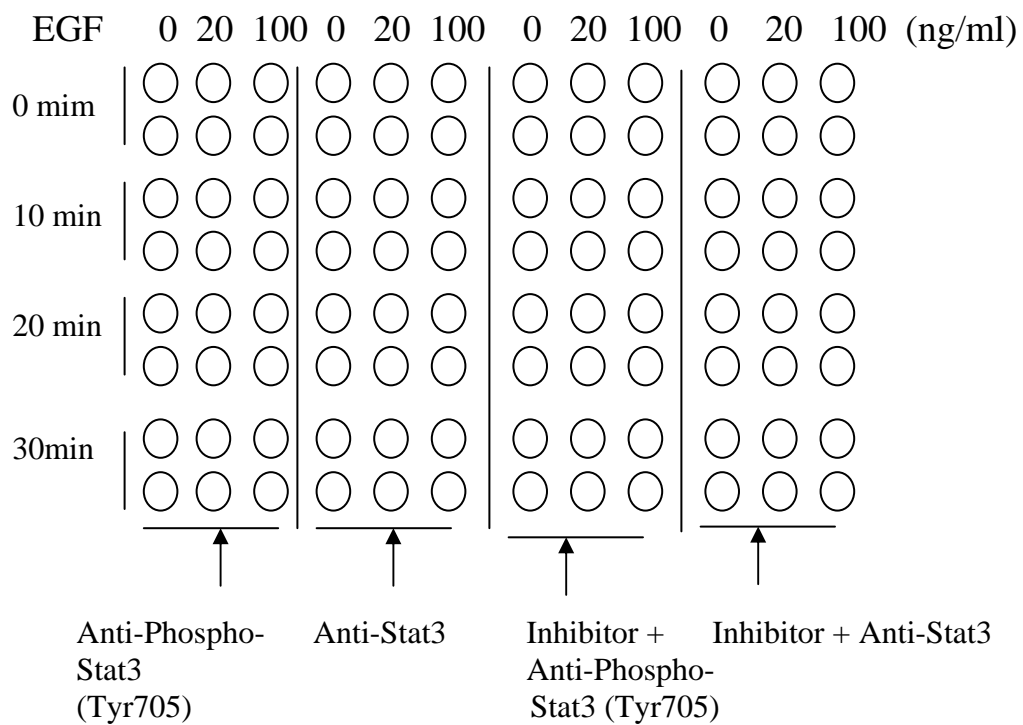

Fig. 2 Example of how to seed cells for RayBio® cell-based assay
1. Design your experiment. For example, see Fig. 2 and 3.